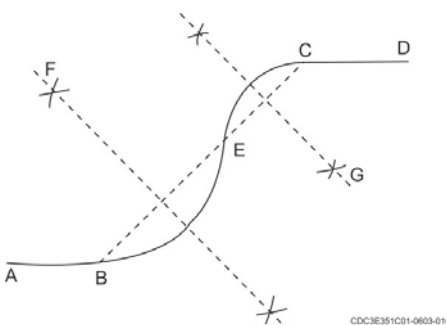

Figure 1-6. Drawing ogee curves.
Figure 1-6 shows how two parallel lines are connected with an ogee (S) curve. This is done by first connecting points B and C with a straight line, then selecting a point such as E through which to pass the curve. Then, bisect lines BE and CE and construct two arcs—arc BE from center point F, and arc CE from center point G. These two arcs connect the parallel lines AB and CD. In sheet metal work, ogees are used to form rain gutters, the cheeks of ductwork, and anywhere sheet metal is formed into an S-curve.